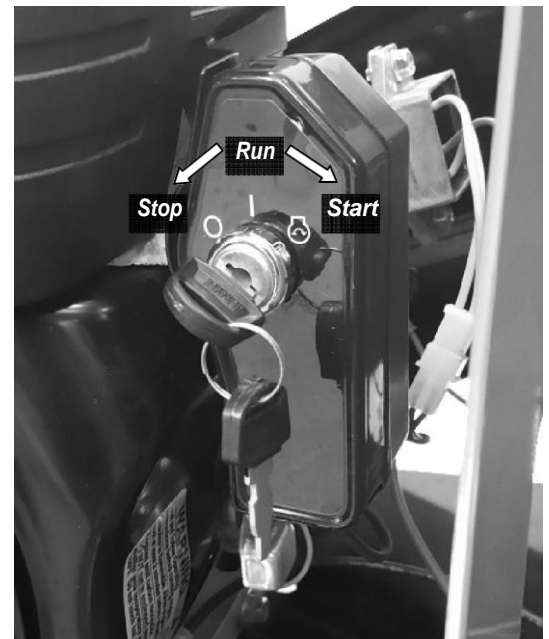

Figure 26
1. Ensure that the Fuel Shut-Off is in the “ON” position (**Figure 26**).
4. Turn the Key to the “START” position until the engine starts and then release it (**Figure 26**). The Key Switch will snap back to the “RUN” position and the engine will continue to run.